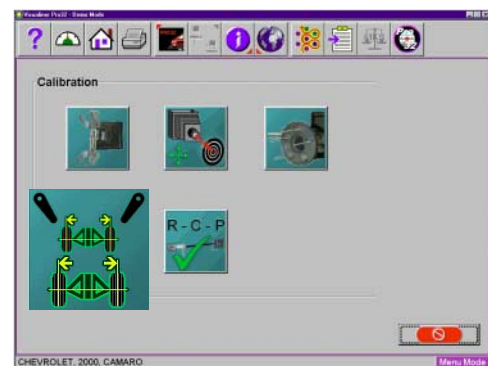

Figure 23
1. From the calibration icon single click on the “Camera Pod Rotation” icon. (Figure 23)